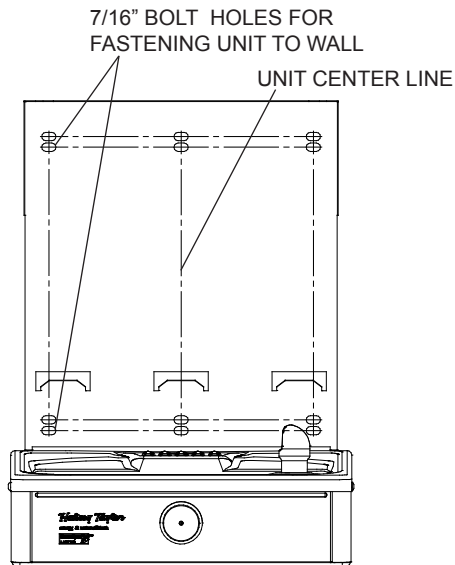

Fig. 7
- 1) Remove two (2) mounting screws with 5/32" Allen wrench holding top cover to Bottle Filler (See Fig. 7). Remove top cover. Note do not discard mounting screws, they will be needed to reinstall top cover.
- 11) Once Bottle Filler is installed on wall plate tabs, water line, wire(s) and power cord are installed properly, push top of Bottle Filler toward wall and line up top cover two (2) holes.
- 12) Reinstall Top Cover on Bottle Filler (See Fig. 7) with two mounting screws from step 1 above. Caution, do not over tighten screws.